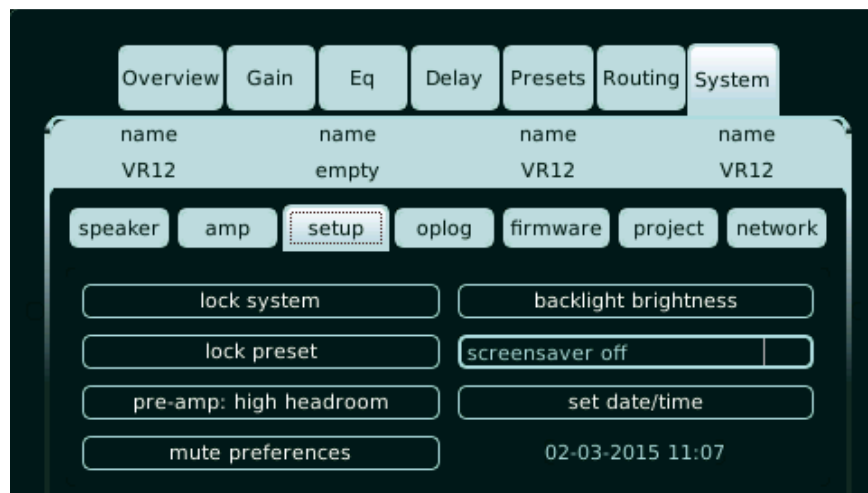

Fig 22. Set-up menu with setting options
7.7.3 Setup - in this section, different system functionalities can be set, like system lock, screensaver function (the “eye”), date/time and mute-setting options. (see fig.22)
7.7.4 Lock system - with pressing this button, the QWERTY keyboard pops-up, to enter a password code; Confirm code and the active tab switches to Overview tab, with which all tabs are locked and only the Mute buttons can be operated. (see fig.22)
7.7.5 Lock preset - with pressing this button, the QWERTY keyboard pops-up, to enter a password code; Confirm code and the active tab switches to Overview tab, with which System tab and the Preset tab are locked. (see fig.22)
7.7.6 High headroom/low noise - the analogue input sensitivity can be adjusted; “High headroom”, allows driving the amp with an analog input signal +21dBV (+23dBu) Use this setting when the signal source can exceed +6dBV (+8dBu), usually higher-SPL applications. In the “Low noise” setting the input stage is fully driven with a +6dBV (+8dBu) signal. The signal is internally boosted to fully utilize the ADC's quantization space, resulting in a better signal-to-noise ratio. Use this setting when working with signals not exceeding +6dBV (+8dBu), usually low-SPL applications. This applies to the analogue inputs only. In both settings the overall gain remains the same. (see fig.22)
7.7.9 Screen saver - this function enables time-out setting for the screen saver (the “Eye”). Selectable settings are: Activation after 30 seconds, 2 minutes, 10 minutes or off. (see fig.22)
7.7.10 Change date/time - date and time can be adjusted, with which both the visible date/time dialog as well as the internal “date/time stamp” in the log files is changed. (see fig.22)